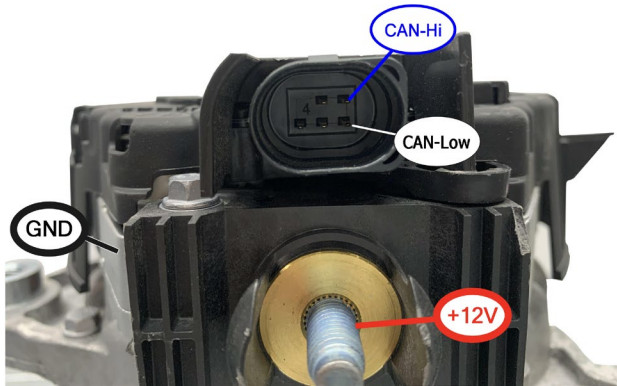

Figure 26. IST50S062 starter-generator
4. Connect the tester to the alternator using the MS-33505 cable according to the cable color coding. A typical connection diagram for a CAN-controlled alternator is shown in Fig. 26.